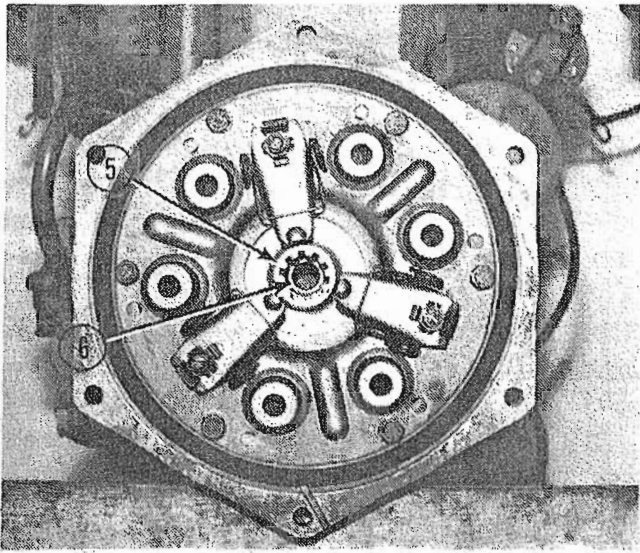

FIG. 13
Align the splined hub of the friction disc (5, Fig. 13) to the pilot bearing (6, Fig. 13) and torque the (6) 8 x 20mm. bolts 15/17 ft./lbs.